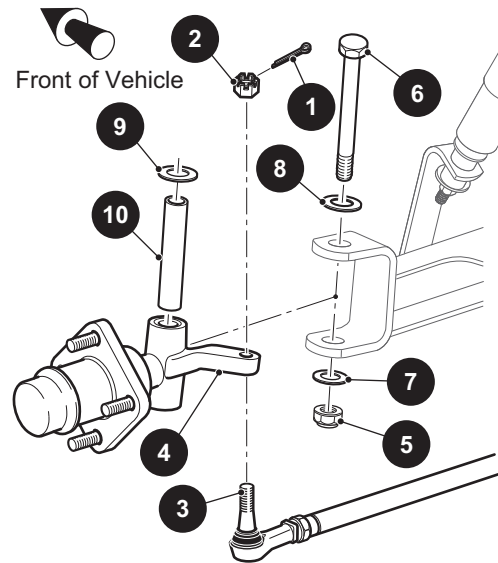

Figure 16 Spindle Replacement
2. Remove cotter pin (1) and loosen castellated nut (2) until tie rod ball joint (3) threads are protected (Ref. Figure 16). Using a ball joint separator as a lever,